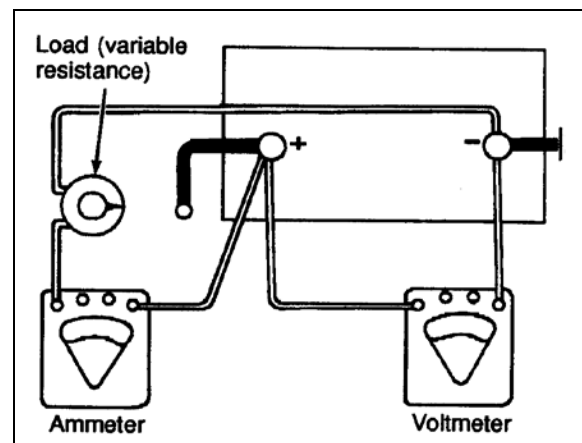

FIGURE 19: LOAD TEST
To make this test, use test equipment that will withstand a heavy electrical load from the battery, such as a carbon pile resistor along with an ammeter and volt meter (fig 19). A charging system analyzer test equipment may also be used.
1. Connect a voltmeter, ammeter, and a variable load resistance as illustrated in figure 19.